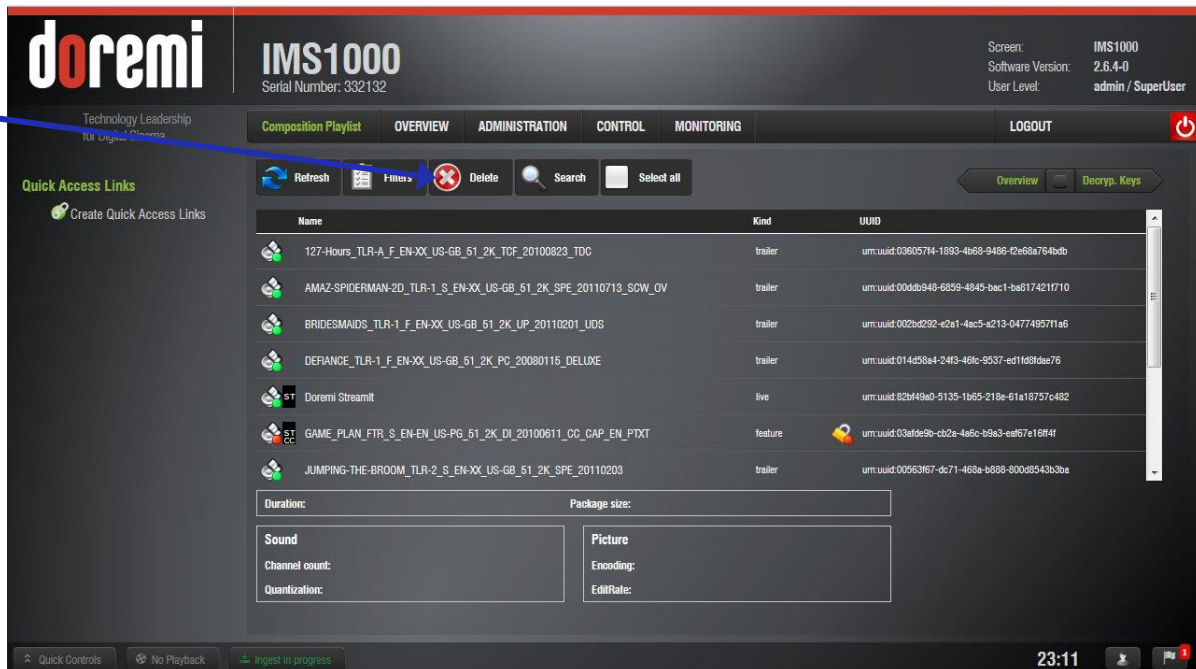

Figure 192: Deleting a Live Event
- To delete an existing live CPL, select it in the Composition Playlist tab of the Content Manager application. Click the Delete button (Figure 192).